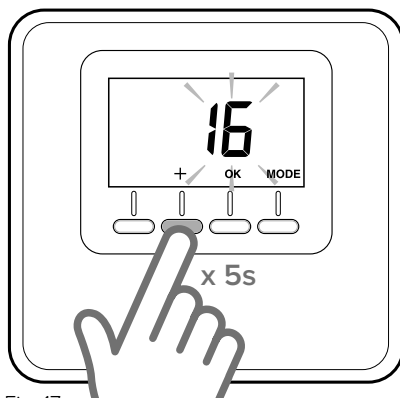

Fig. 17
- Hold the “+” key on the room sensor down for 5 seconds (Fig. 17). The display will alternate between the software version and modification index